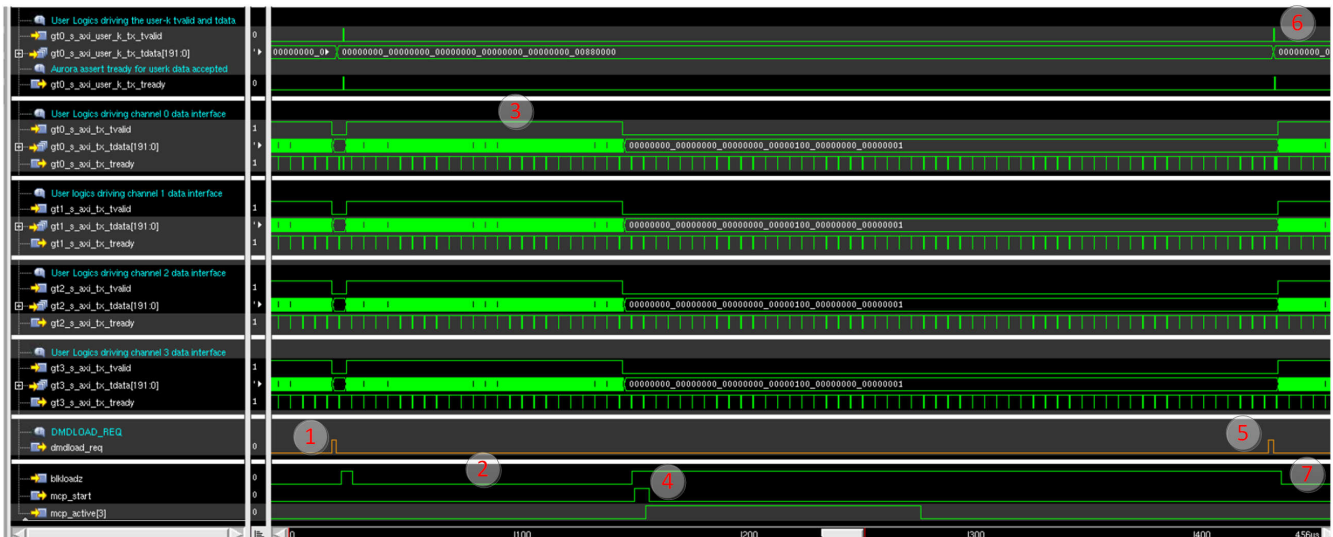

Figure 4-20. DMDLOAD_REQ Delayed Assertion Waveform
- Refer to Figure 4-20 for a scenario where the Apps FPGA chooses to send the DLPC964 a DMD data block, but delay the assertion of the DMDLOAD_REQ.